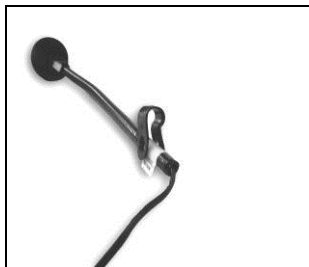

Fig. 11
- Set up the microphone by inserting the clip that holds it in place, being careful to position it correctly. (Fig. 11)
**Note:** The flat part of the clip has to face upward when the microphone is positioned as shown in Fig. 11.